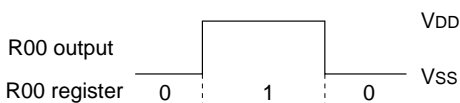

Fig. 3.3.6 Output waveform at DC output selection
- Output waveform is shown in Figure 3.3.6.